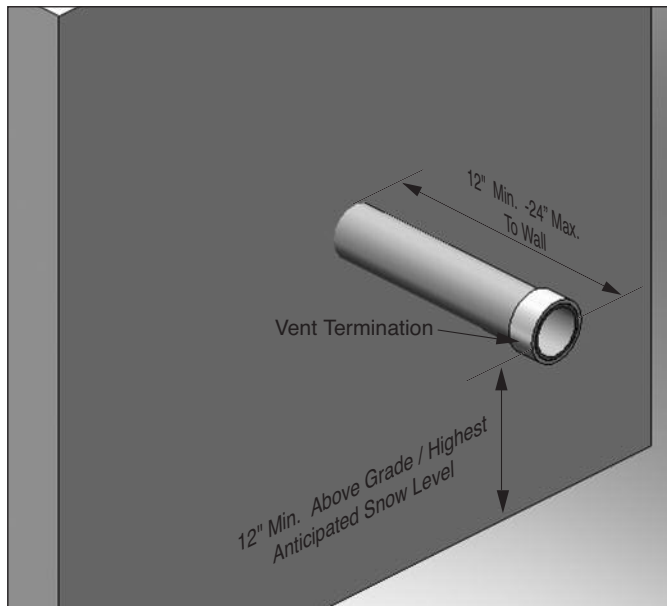
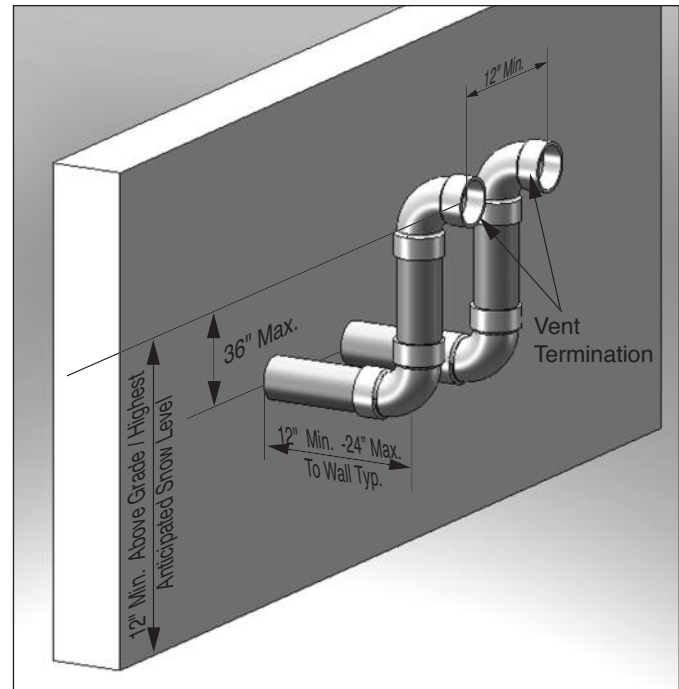

Fig. 26: Category IV - Sidewall Termination of Vent Pipe with Coupling Termination
Fig. 32: Category IV - Multiple Boiler Sidewall Vent Terminations
- Using a coupling as shown in Fig. 26 page 26.
Do not extend the vent pipe outside the sidewall beyond the dimensions shown in Figs. 26 through 31 pages 26 and 27. Extended exposure of the vent pipe could cause condensate to freeze and block the vent pipe.
3. Locate the vent pipe penetration to provide minimum clearances as described in Figs. 26 through 31 pages 26 and 27.
2. The wall penetration of the vent should be a minimum 12" from the adjacent vent pipe of another boiler for installations in the U.S as shown Fig. 32. For installations in Canada, provide clearances as required by CSA B149.1 or 149.2.
Fig. 32 shows one option for vent terminations of multiple PRESTIGE boilers. Any vent termination option shown in Figs. 26 through 31 pages 26 and 27 can be used for multiple PRESTIGE boilers. The 12" minimum distance between centerlines of the vent piping must be maintained for any chosen option.
Reference Figs. 26 through 31 pages 26 and 27 for the configuration dimensions of the vent for each unit installed in a multiple installation.